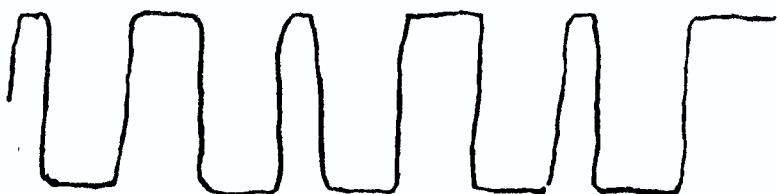

FIG. 1
- 6.12 SET SYNC SWITCH TO ON. WAVEFORM ON SCOPE SHOULD SIMILAR TO FIG. 1 (NOTE: A SLIGHT ADJUSTMENT OF VCO-2 FM SLIDER UP OR DOWN MAY BRING THIS WAVEFORM IN A LITTLE CLEARER)